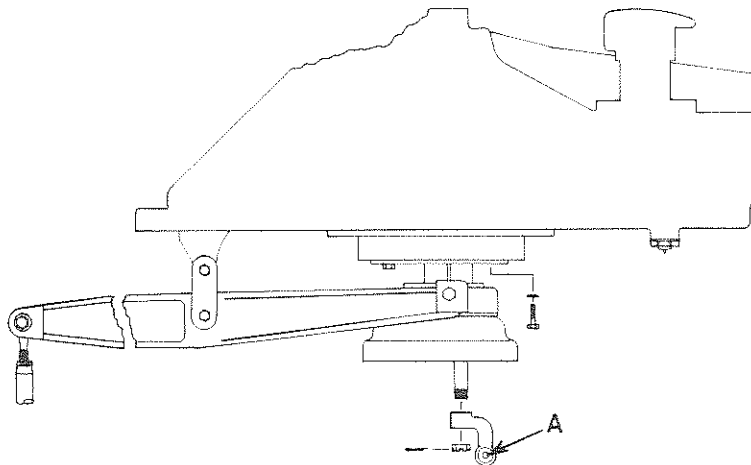

FIGURE 2
5. Dog leg uniball bearings worn excessively (ref. Figure 2, Item A).